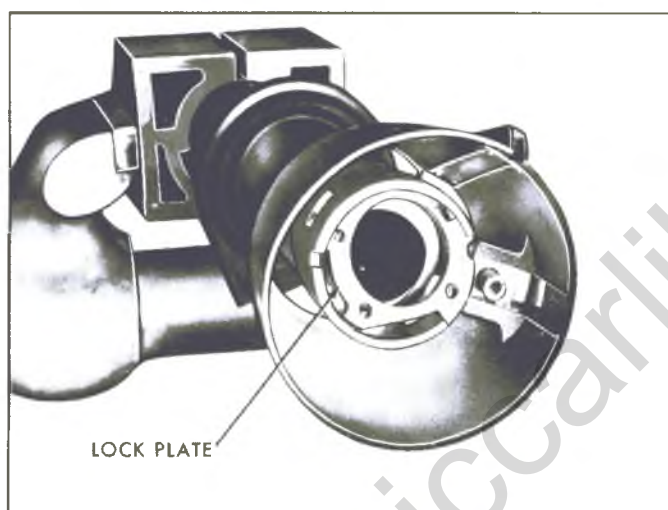

Fig. 98—Removing Lock Plate Assembly
15. Remove the lock plate by sliding out of the column notches, tipping the plate downward toward the housing (to compress the wave washer) and then removing as shown in Figure 98. Remove the wave washer.